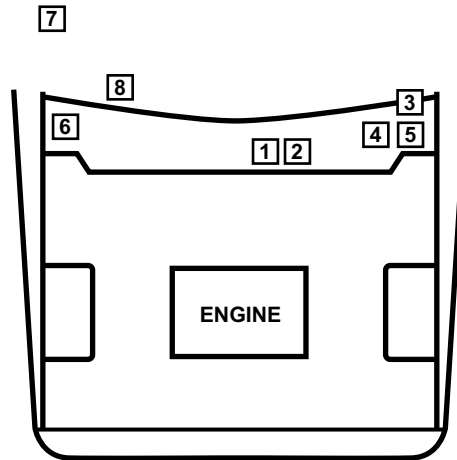

Figure 15-5 1990–94 Legacy and 1993–95 Impreza 1.8L common connector locations
- “1990–94 Legacy and 1993–95 Impreza 1.8L common connector locations” on page 146 (Table 15-5, Figure 15-5)